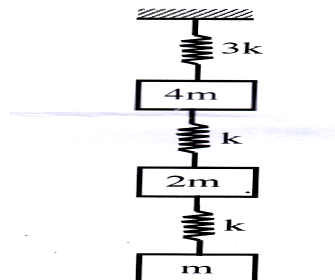

Fig.3, Q. No.8 (c)
- c. Determine the influence coefficients of the system shown in Fig. 3 Q. No. 8(c). 10